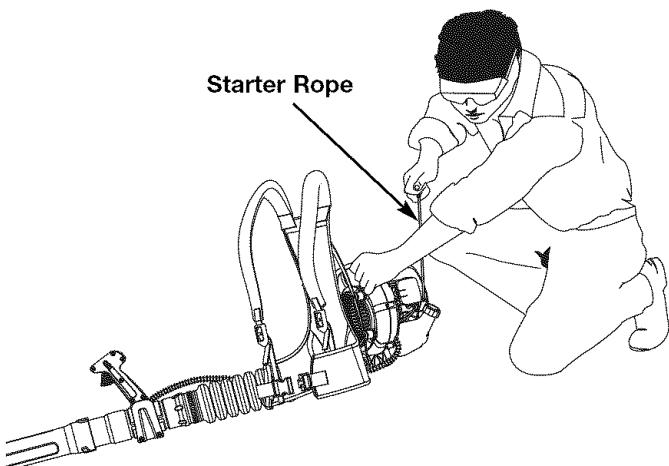

Fig. 13
8. Crouch in the starting position (Fig. 13) and pull the starter rope out with a **controlled and steady motion** 5 times.